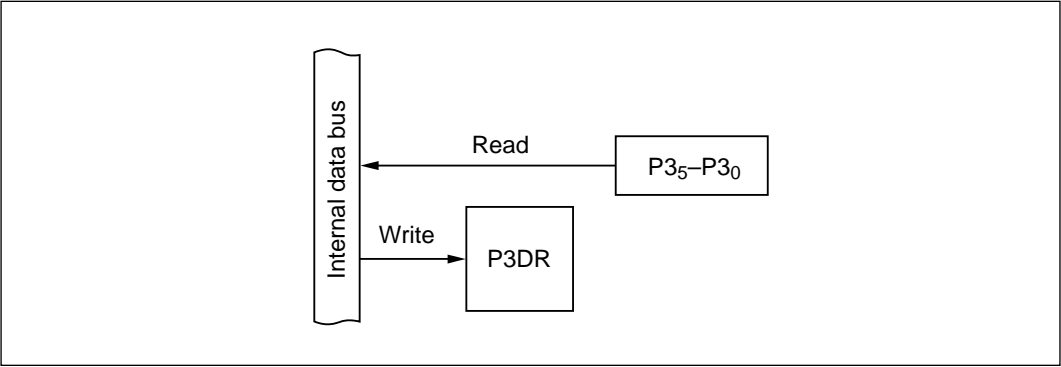

Figure 10-17 Input Port (Modes 1 to 7)
(1) Input Port (Modes 1 to 7): Figure 10-17 shows a block diagram illustrating the general-purpose input function. Table 10-12 indicates register read/write data. Values written in the port 3 data register (P3DR) have no effect on general-purpose input lines. When read, P3DR returns the value at the pin.